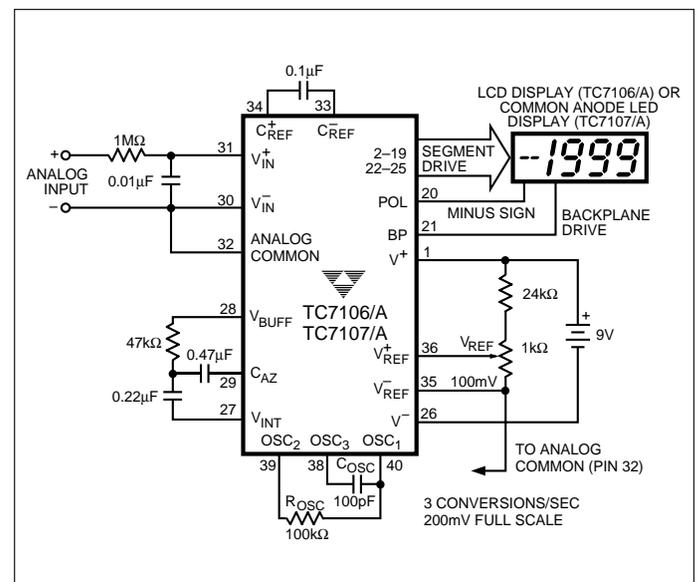

Figure 1. TC7106A/7A Typical Operating Circuit
3. Unless otherwise noted, specifications apply to both the TC7106/A and TC7107/A at T_A = 25°C, f_{CLOCK} = 48 kHz. Parts are tested in the circuit of Figure 1.